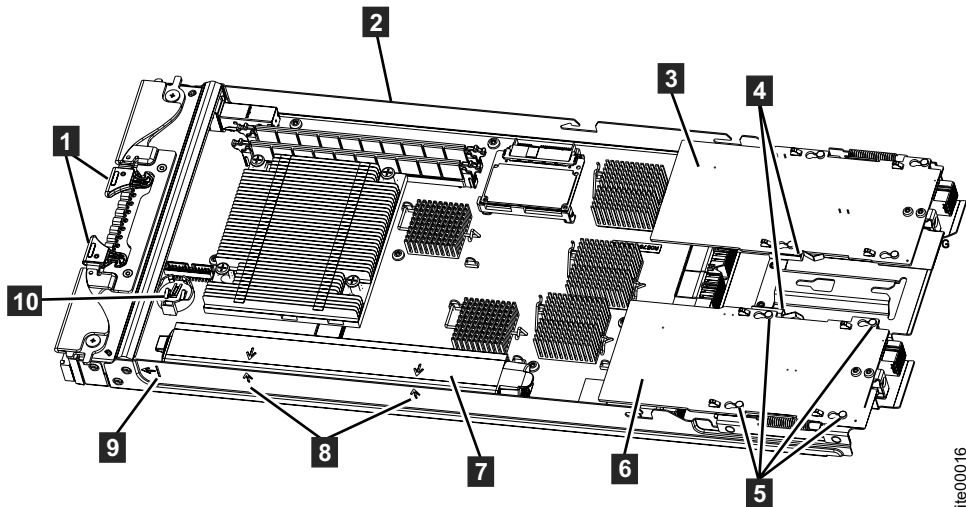

Figure 29. Location of CMOS battery
7. Remove the defective CMOS battery. Figure 29 on page 48 shows the location of the CMOS battery **10**.